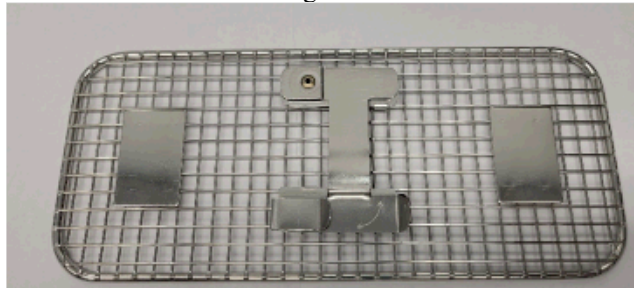
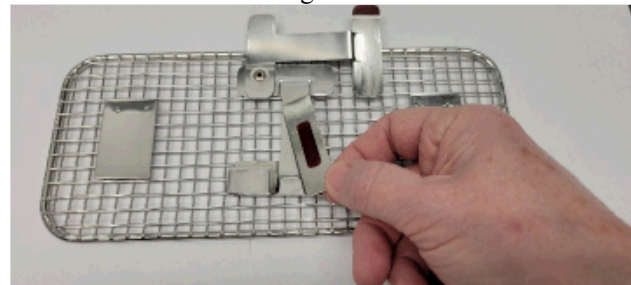

Figure 4
Figure 5
6. The closed TOSI[®] holder and TOSI[®] -plate should look like **(Fig. 4)**.
7. Place the TOSI[®] holder wire rack in the center of an empty instrument tray one (1)-TOSI[®] per level of the instrument rack (Position "A" in the diagram below).
- b. Open the TOSI holder to visually inspect the TOSI plate. **(Fig. 5)**.